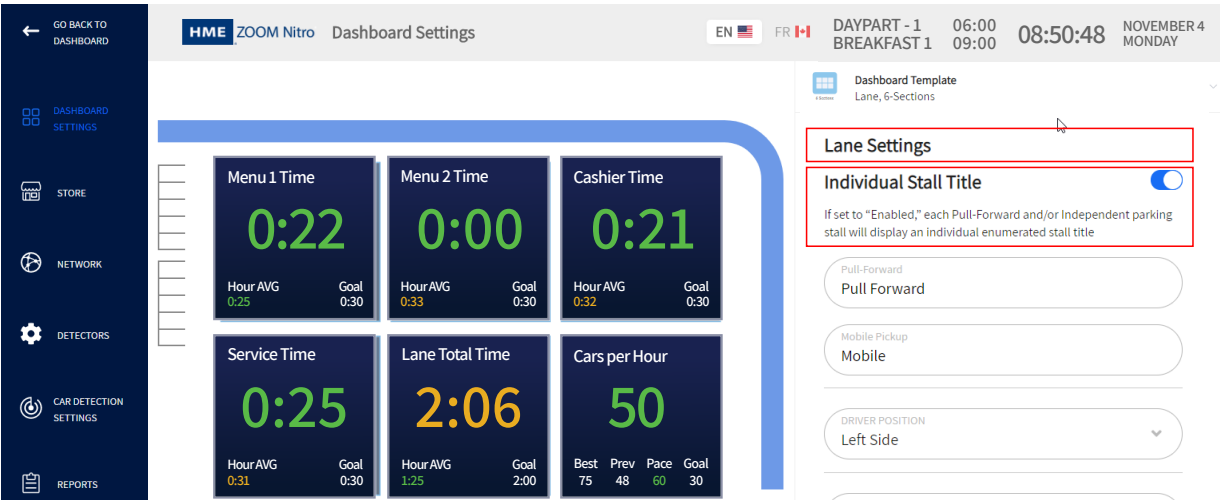

Fig. 3.13
| <div>DAYPART/SHIFT OPTION</div> <div>Show DP with Time</div> | DAYPART/SHIFT OPTION: Different combinations of Daypart (DP), Shift, and Time can be selected here to be displayed at the top of your Dashboard screen (see Fig. 3.13). |